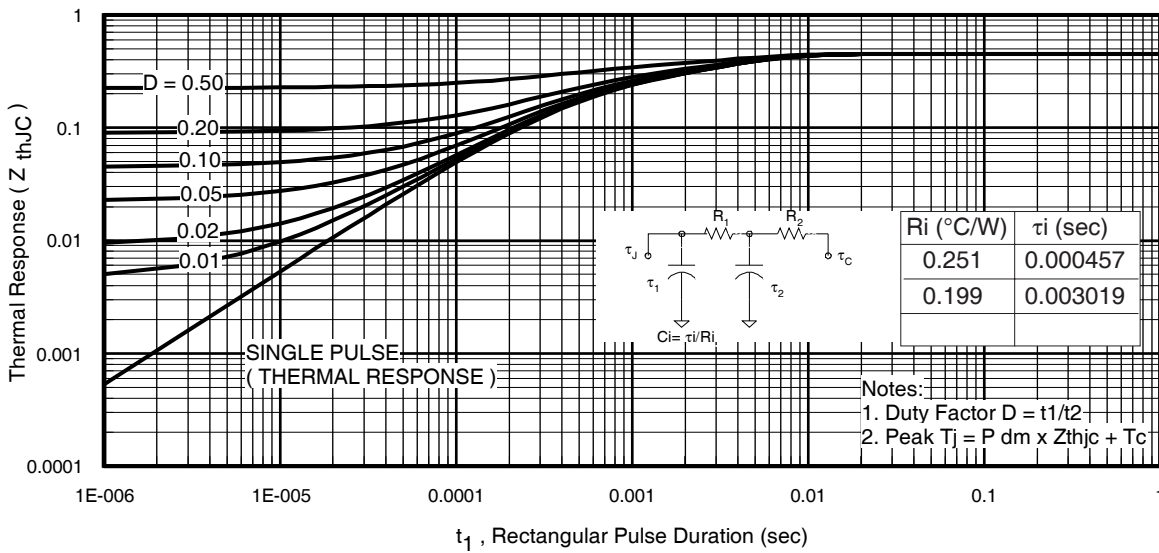
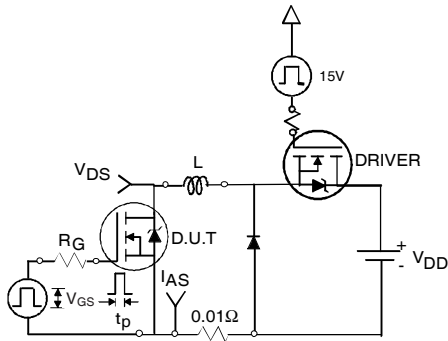

Fig 11. Maximum Effective Transient Thermal Impedance, Junction-to-Case
Fig 12a. Unclamped Inductive Test Circuit
- ① Repetitive rating; pulse width limited by max. junction temperature. (See fig. 11).
- ② Limited by T_{Jmax} , starting $T_J = 25^\circ\text{C}$, $L = 0.11\text{mH}$, $R_G = 25\Omega$, $I_{AS} = 75A$, $V_{GS} = 10V$. Part not recommended for use above this value.
- ③ $I_{SD} \leq 75A$, $di/dt \leq 340A/\mu s$, $V_{DD} \leq V_{(BR)DSS}$, $T_J \leq 175^\circ\text{C}$.
- ④ Pulse width $\leq 1.0\text{ms}$; duty cycle $\leq 2\%$.
- ⑤ $C_{oss\ eff.}$ is a fixed capacitance that gives the same charging time as C_{oss} while V_{DS} is rising from 0 to 80% V_{DSS} .
- ⑥ Limited by T_{Jmax} , see Fig.12a, 12b, 15, 16 for typical repetitive avalanche performance.
- ⑦ This value determined from sample failure population. 100% tested to this value in production.
- ⑧ This is applied to D²Pak, when mounted on 1" square PCB (FR-4 or G-10 Material). For recommended footprint and soldering techniques refer to application note #AN-994.
- ⑨ R_{θ} is measured at T_J of approximately 90°C .
3. Equation below based on circuit and waveforms shown in Figures 12a, 12b.
$Z_{thJC}(D, t_{av})$ = Transient thermal resistance, see figure 11)